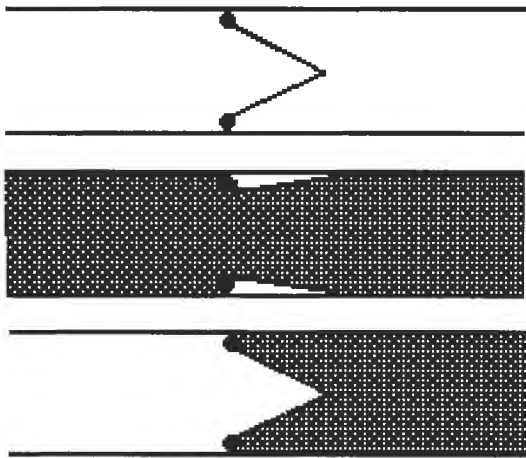

Figure L3-04
- The diode is a one-way street. You can view the animated version of Figure L3-04 at the Web site [www.books.mcgraw-hill.com/authors/cutcher](http://www.books.mcgraw-hill.com/authors/cutcher).